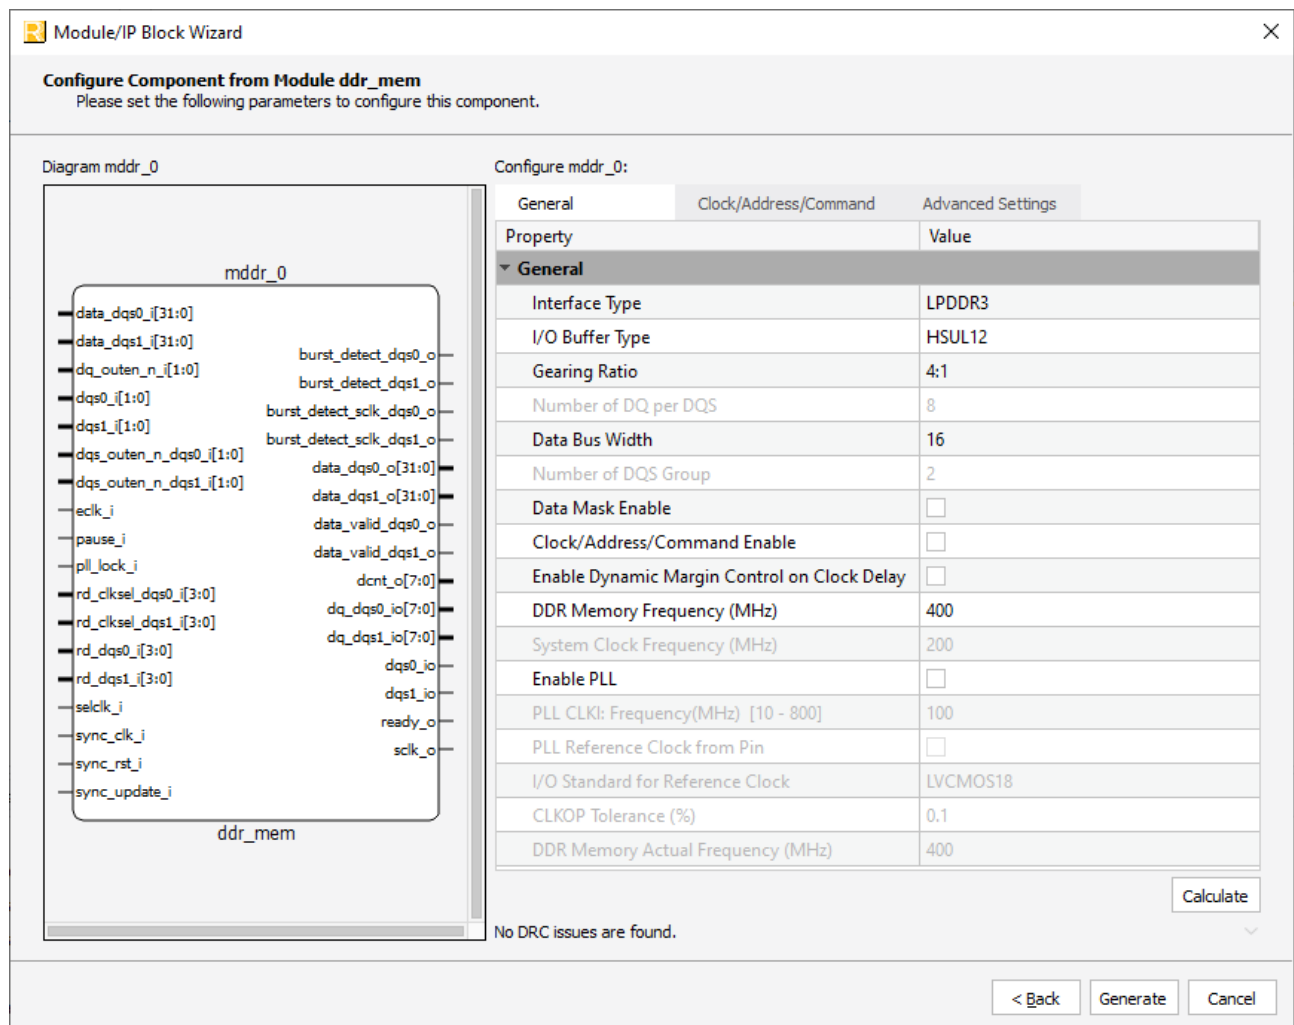
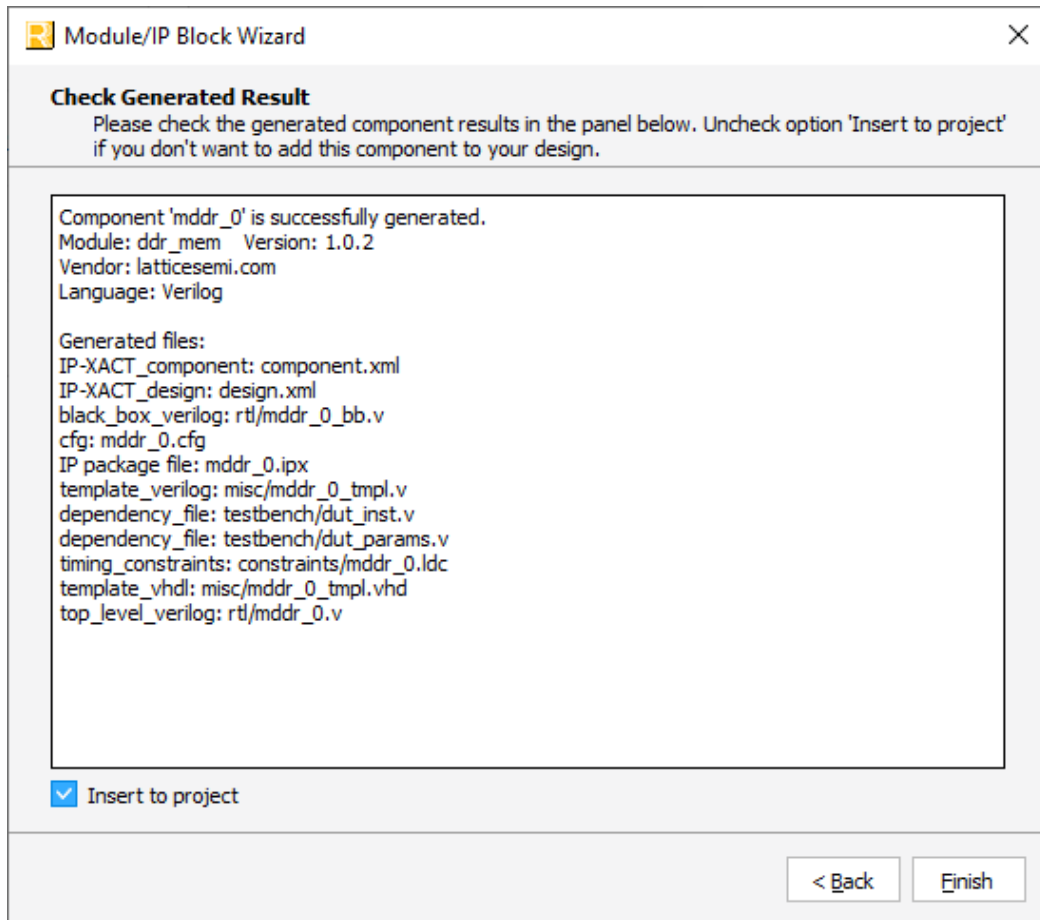

Figure 3.1. Configure Block of DDR Memory Module
Figure 3.2. Check Generating Result
2. In the dialog box of the Module/IP Block Wizard window, configure DDR Memory module according to custom specifications using drop-down menus and check boxes. As a sample configuration, see Figure 3.1. For configuration options, see Table 2.4.
3. Click **Generate**. The Check Generating Result dialog box opens, showing design block messages and results as shown in Figure 3.2.
Generating and Synthesizing the IP	Updated Figure 3.1 and Figure 3.2.